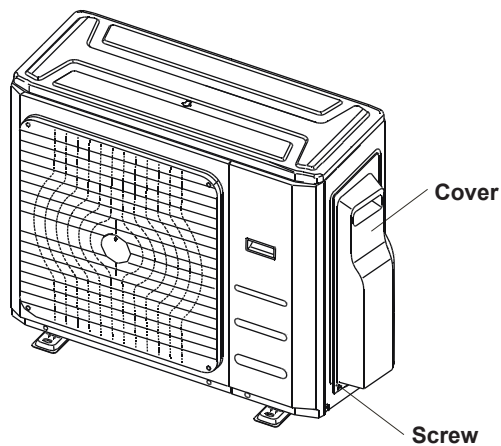

Fig. 8.1
- 2. Remove the electric cover of the outdoor unit. If there is no cover on the outdoor unit, disassemble the bolts from the maintenance board and remove the protection board (see Fig. 8.1).